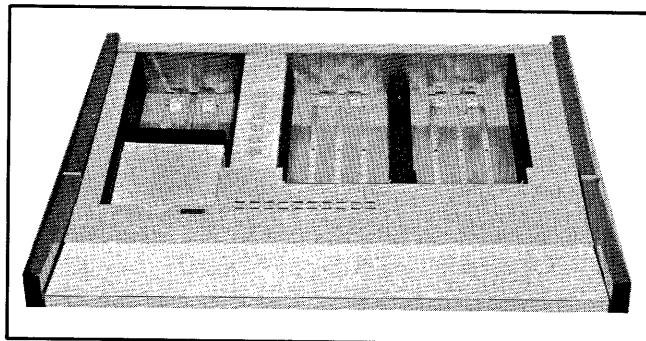

Figure 13. Model 7140 Input Hopper and Output Stackers
1. Remove the card weight (and any card present) from the input hopper (see Figure 13). Cards may remain in the output stacker provided it is not full (indicated by illumination of the STACKER light). Press the RESET switch to initialize the reader and clear fault conditions. The transport motor may start depending upon the position of the POWER switch.